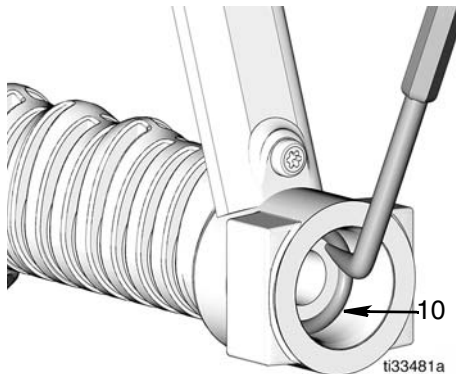

FIG. 14
4. Use a pick to remove o-ring (10) (FIG. 14) from inlet.